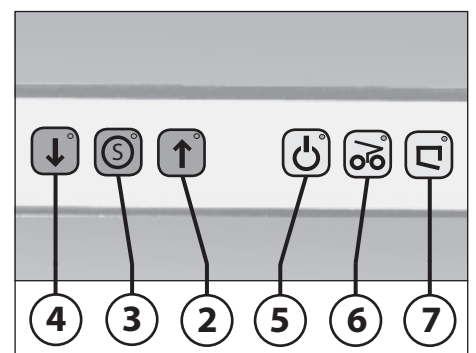

fig. 2
2. Press the „forward“ button (2) (fig. 2). The cutting system starts running.
- 2 = „Cutting system forward“ pushbutton (fig. 2)**
- 3 = „Cutting system stop“ pushbutton (fig. 2)**
- 4 = „Cutting system reverse“ pushbutton (fig. 2)**
- 5 = Pilot lamp (fig. 2)**
**Continuously lights** when the mains switch (1) is operated.